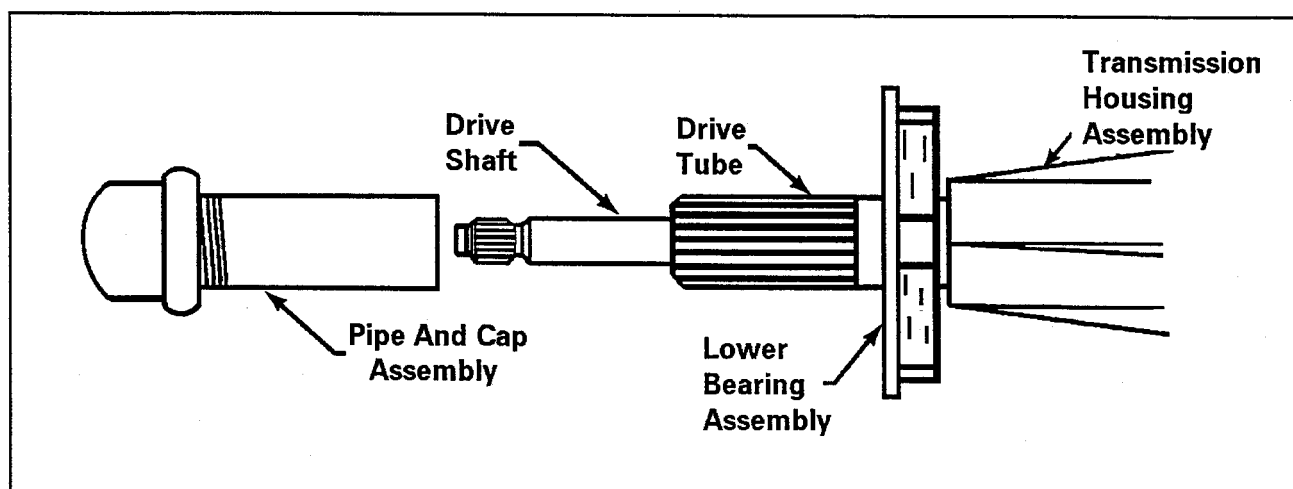

Figure 7-8
4. Remove the three (3) screws which secure the suspension housing to the lower bearing assembly.
6. Using a puller with at least a 3 1/2 inch spread and sufficient reach to encompass the pipe and cap assembly, remove the lower bearing assembly (Figure 7-8).